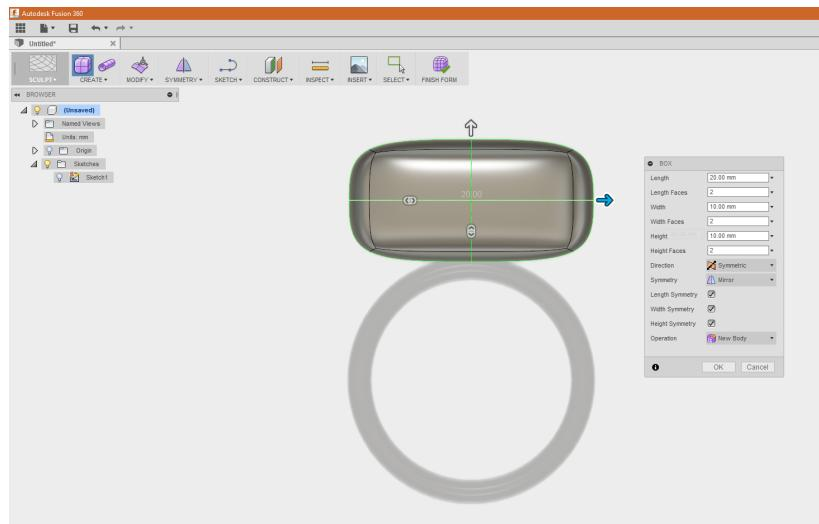

Figure 11-15. Positioning the $4 \times 4 \times 4$ rounded-edge cube above and touching the ring
position the cube around the “top” of the ring, somewhat overlapping the shaded ring, as shown in Figure 11-15.
18. Let's pretend we are jewelry designers and happen to know the settings shown in Figure 11-15: